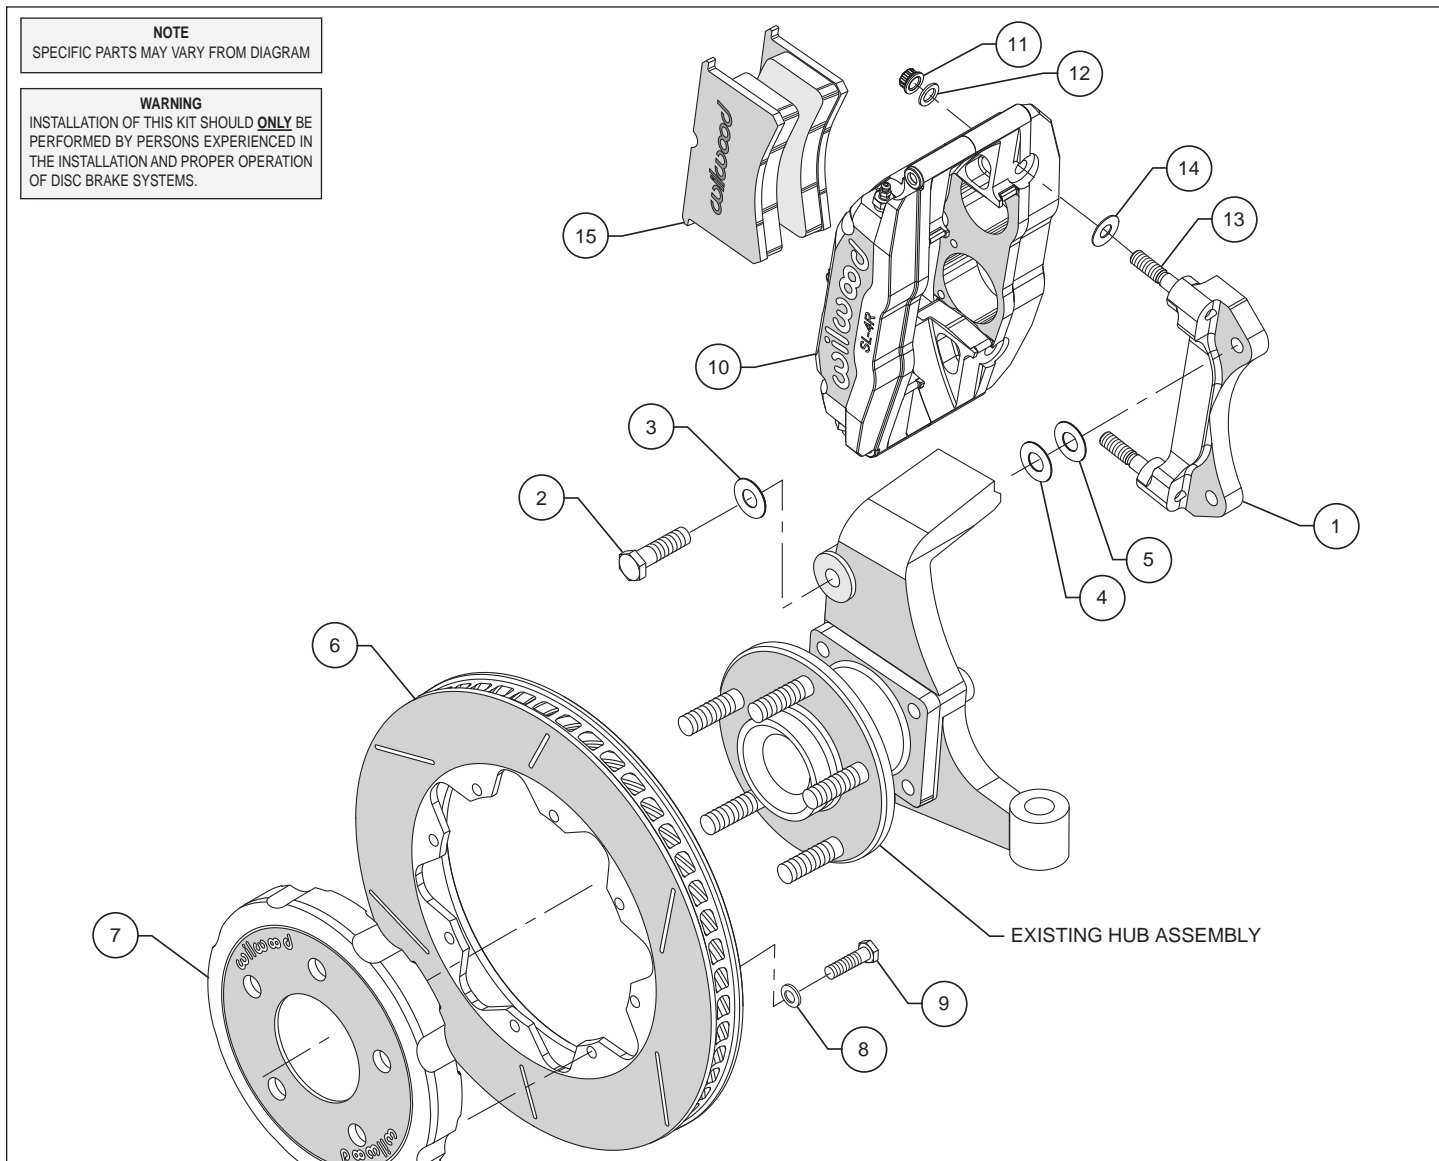
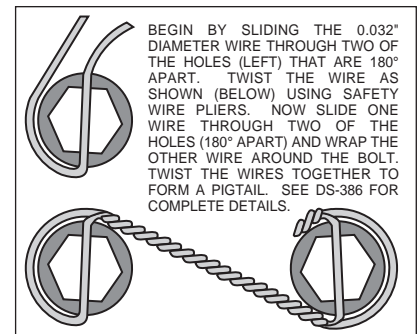

Figure 1. Typical Installation Configuration
Figure 3. Safety Wire Diagram
- The caliper mount bracket assembly (1) should be installed first with clean, dry threads on the mounting bolts. Install the bracket on the inboard side of the spindle by sliding bolt (2) through flat washer (3), and spindle ear from the outboard side of the spindle. Place two shim washers (4) between the bracket (1) and the spindle (see figure 1). The bracket must tighten squarely against the inboard side of the caliper mount bosses on the spindle body. Inspect for interference from casting irregularities, machining ridges, burrs, etc. Later, after the caliper, pad, and rotor alignment has been checked, and any necessary shims have been put in place, the mount bolts should be coated with red *Loctite*® 271 and torqued to 65 ft-lbs.
- With the larger I.D. side of the rotor (6) facing away from the hat (7), attach the rotor (6) to the hat (7) using washers (8) and bolts (9) as shown in Figure 1. Using an alternating sequence, apply red *Loctite*® 271 to the threads and torque bolts to 25 ft-lb. For an added measure of security, the bolts may be safety wired using standard 0.032 inch diameter stainless steel safety wire as shown in Figure 3.